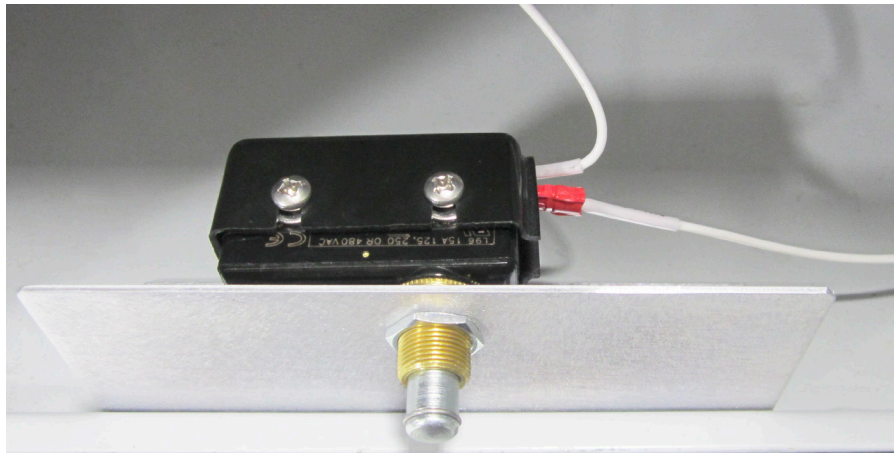

Figure 34 Front Door Switch 1 Mounted on Bracket
- a. Install one of the nuts, included in the switch bag, onto the switch post. Thread the nut all the way to the bottom of the post, as far as it will go (Figure 34).
- b. Place the switch into position through the hole on the bracket, with the wires extending from the **right side** of the switch, as you face the front of the bracket. Secure the switch onto the bracket using the other provided nut to lock the switch in place (Figure 34).